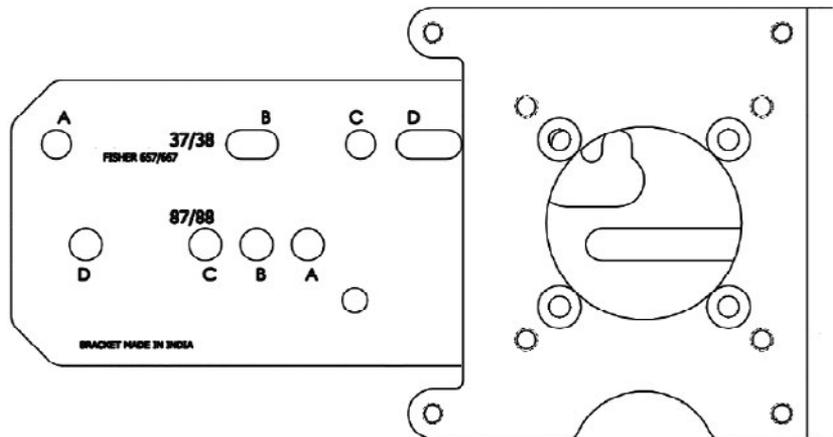

Figure 23 - Reciprocating Valve Mounting Bracket
11. Adjust the turnbuckle until the hole in the SVI FF lever is aligned with the indicating hole in the bracket. Tighten both turnbuckle lock nuts. See Figure 23 on page 55.